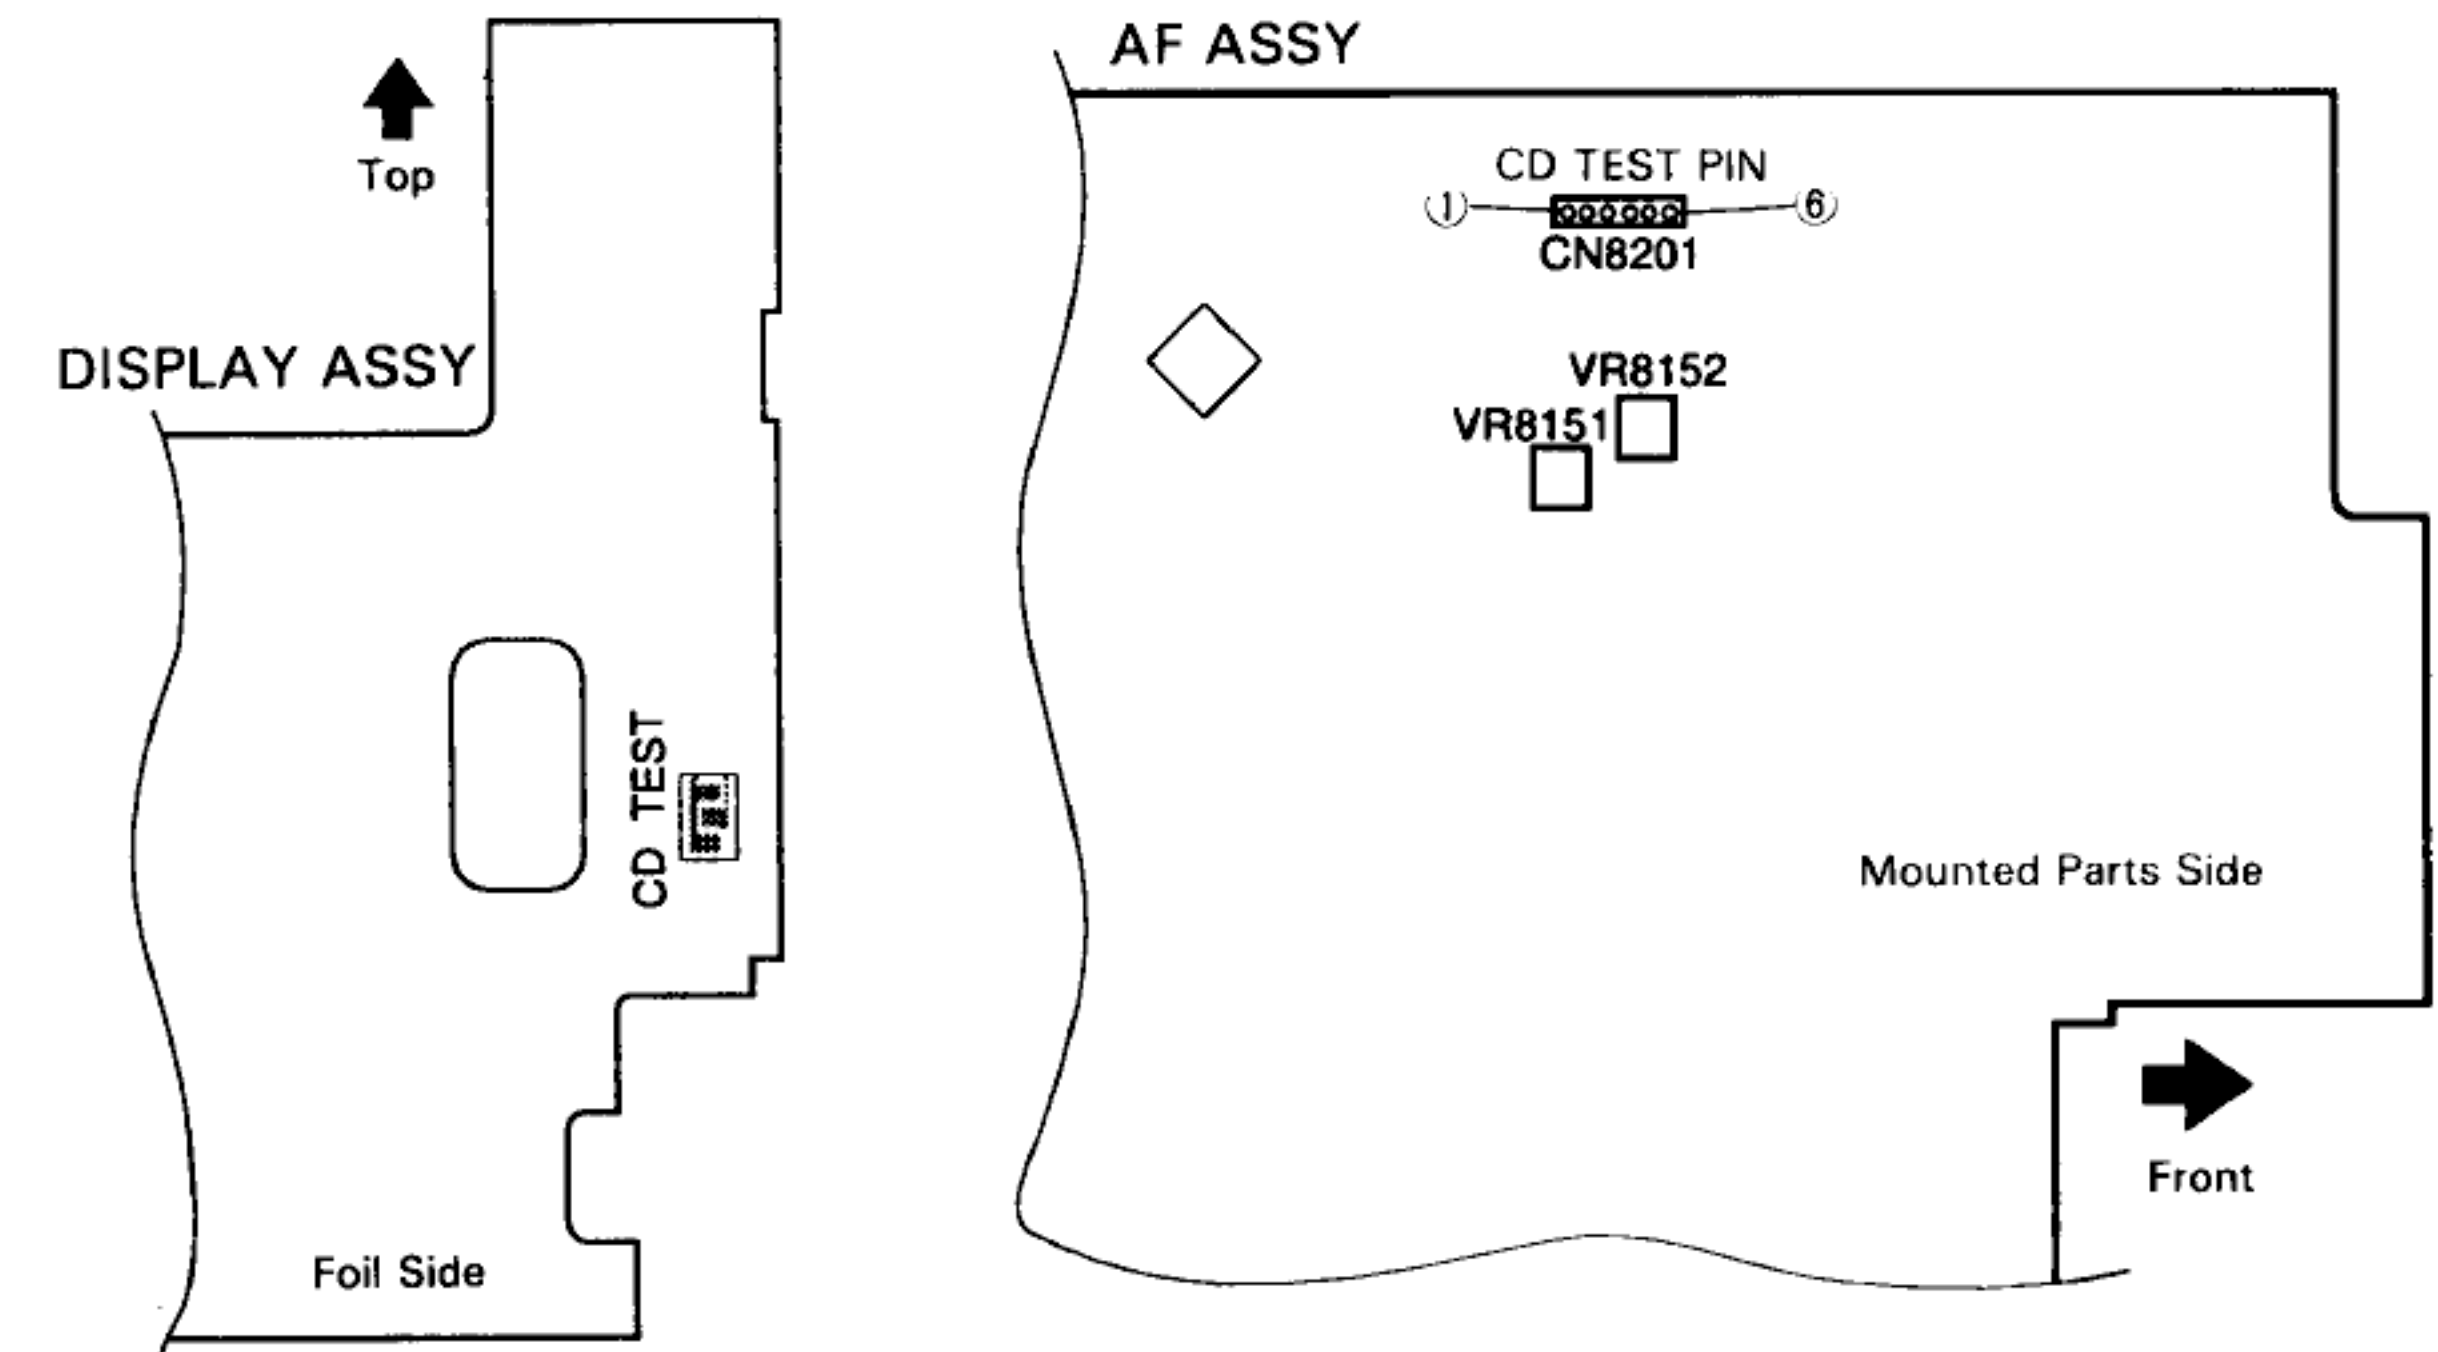

Fig. 3-1 Adjustment Location
2. Short-circuit between both CD TEST points. (See Fig. 3-1)